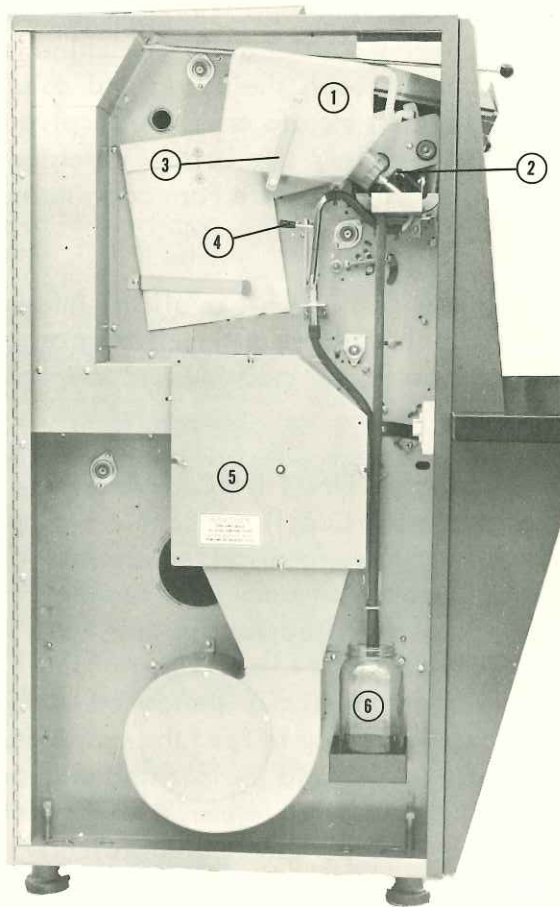

Figure 10. Model 430 Left-Side Compartment
Mix the developer solution using the mixing jars, bottles and stirring rod supplied with the machine (see Figure 2). Pour the solution into the plastic bottle (1, Figure 10), then replace the valve assembly and install as follows:
- a. Open the left door of the machine and check that the drain valve handle (4, Figure 10) is hooked in the raised position.
- b. Install the plastic bottle as shown in Figure 10, by swinging the bottle support arm (3) down in either direction, far enough to allow easy access for positioning. When placed correctly, developer solution will flow into the reservoir and trough.